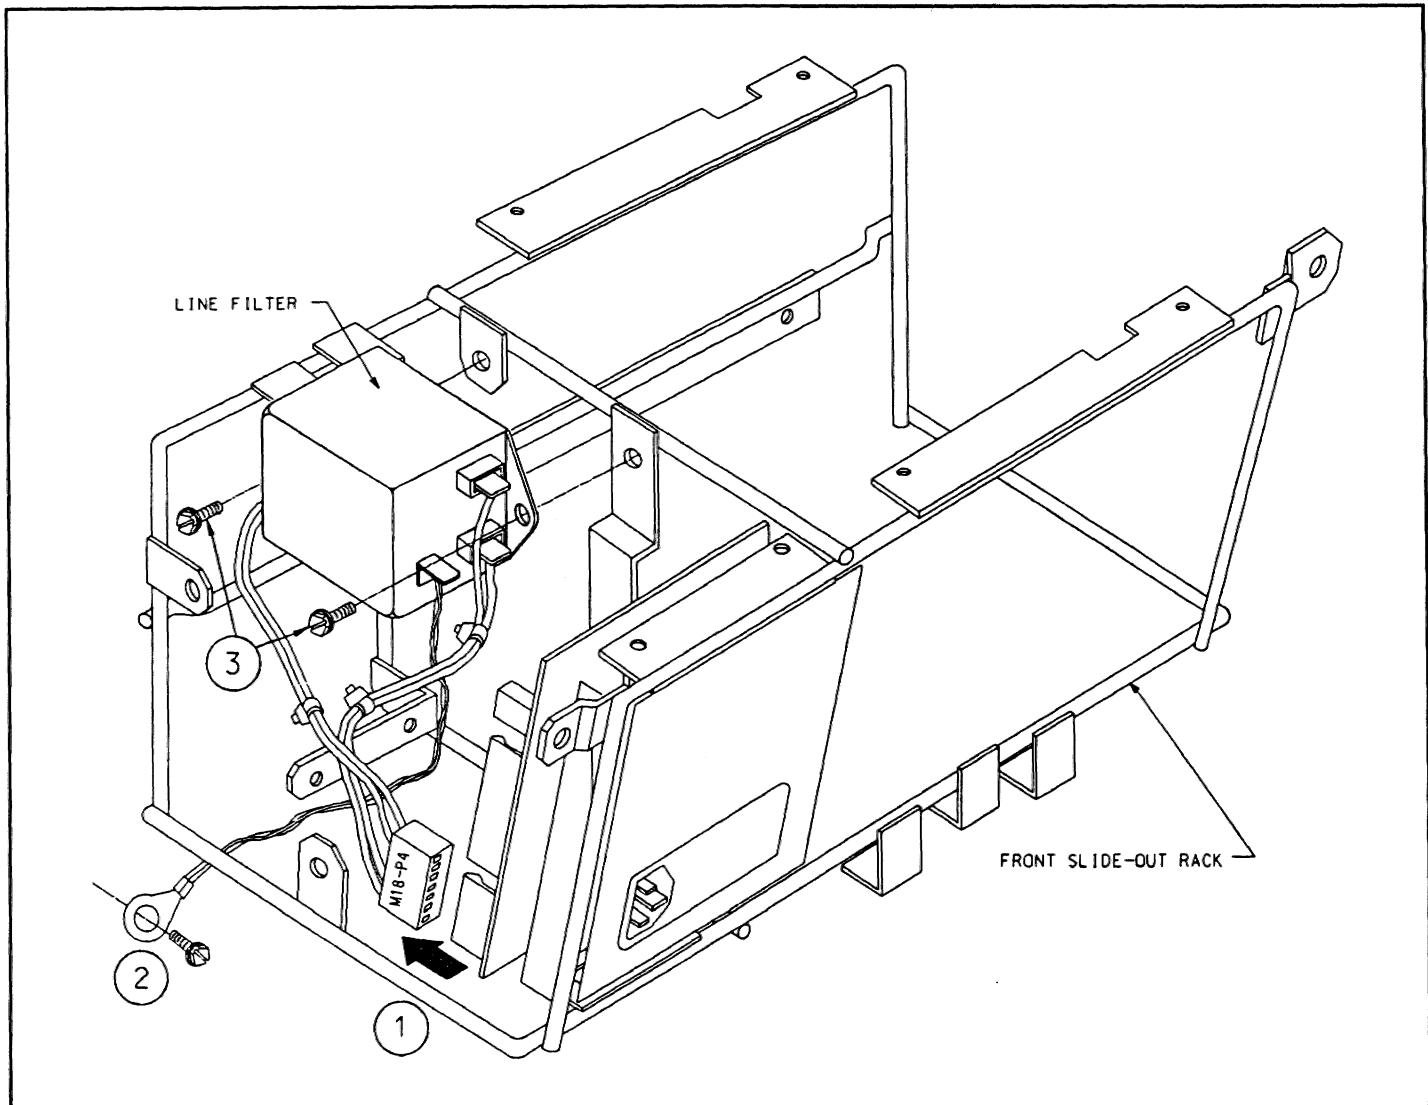

FIGURE 5-13. Line filter Removal
- c) Secure the lens to the lens mounting plate with the 4 hex head screws and washers previously removed. See Figure 5-13.